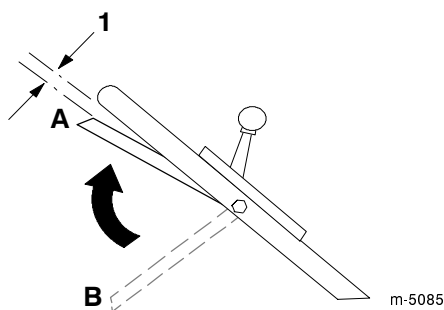

Figure 16
9. Lift the blade control bail up to about one inch (2.5 cm) below the handle; refer to position *A* in Figure 16.